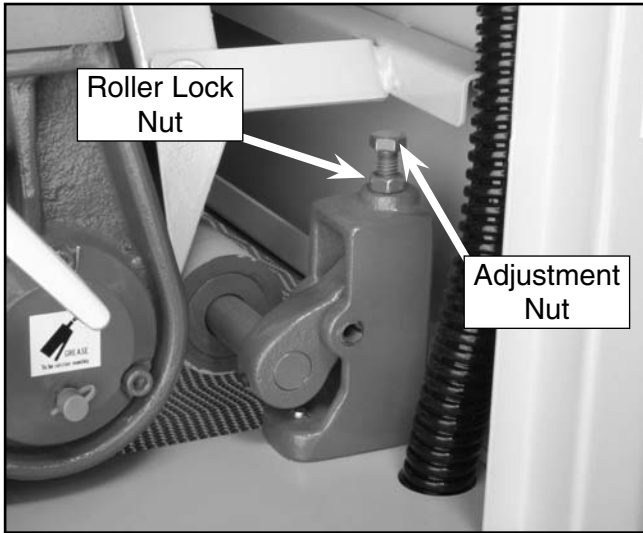

Figure 36. Pressure roller parts.
- Loosen the roller lock nuts (**Figure 36**) on the infeed pressure roller. Turn the adjustment nuts (**Figure 36**) to lower the pressure roller until it just touches the board.